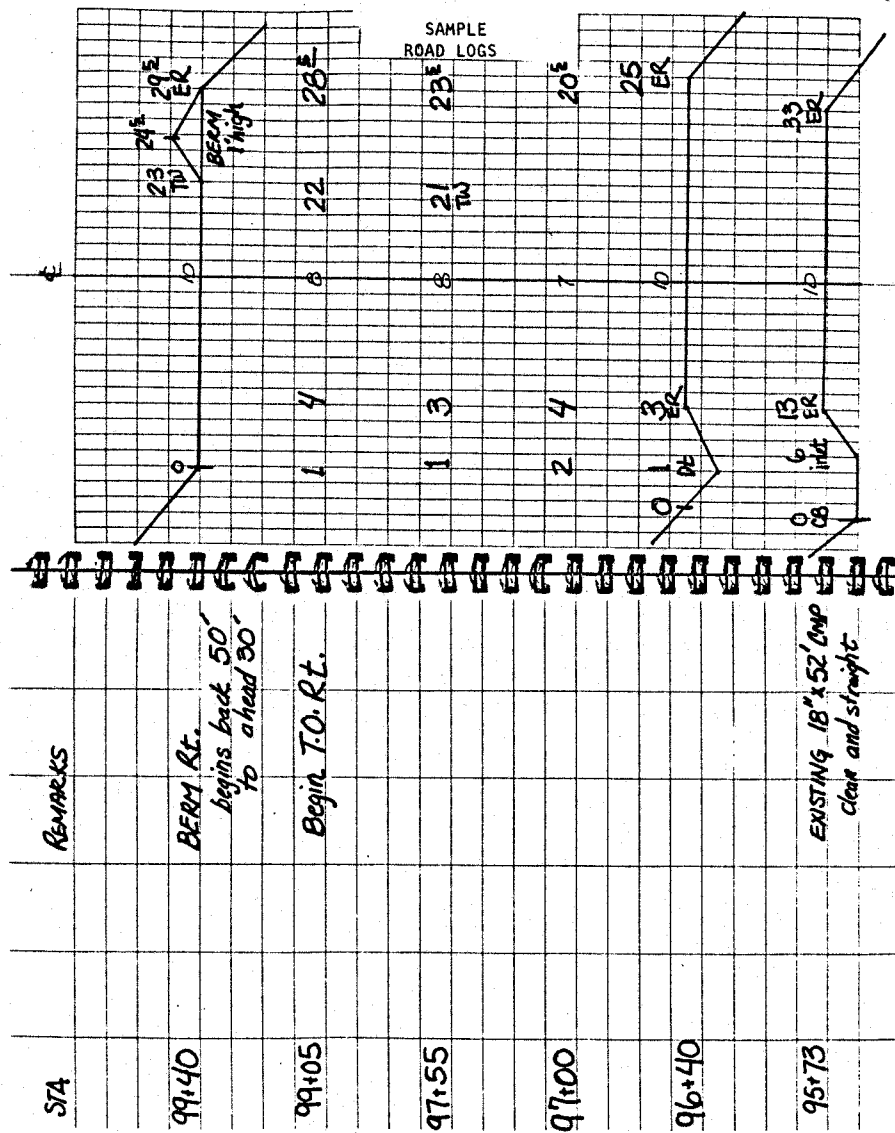

FIGURE 7
7. See Figure 7, Sample Road Logs.